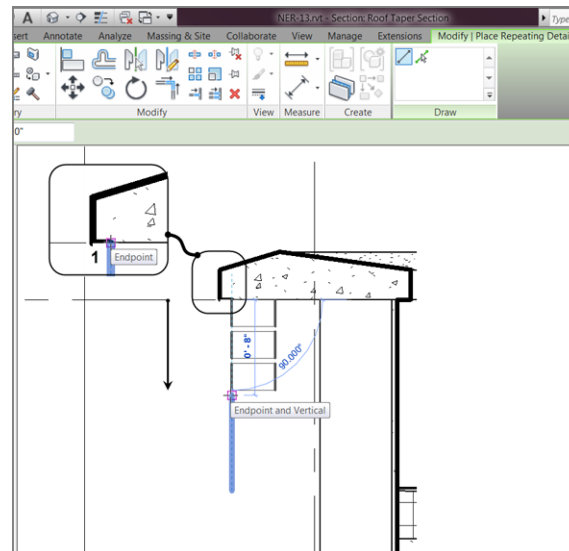

FIGURE 12.11: Adding the repeating detail based on the points shown
3. Pick the point labeled 1 in Figure 12.11.
5. The brick is facing the wrong side. Press the spacebar to flip the brick into the wall (see Figure 12.11).
6. Pick the endpoint 8" (203mm) down, as shown in Figure 12.11, so that three copies of the brick section are placed.